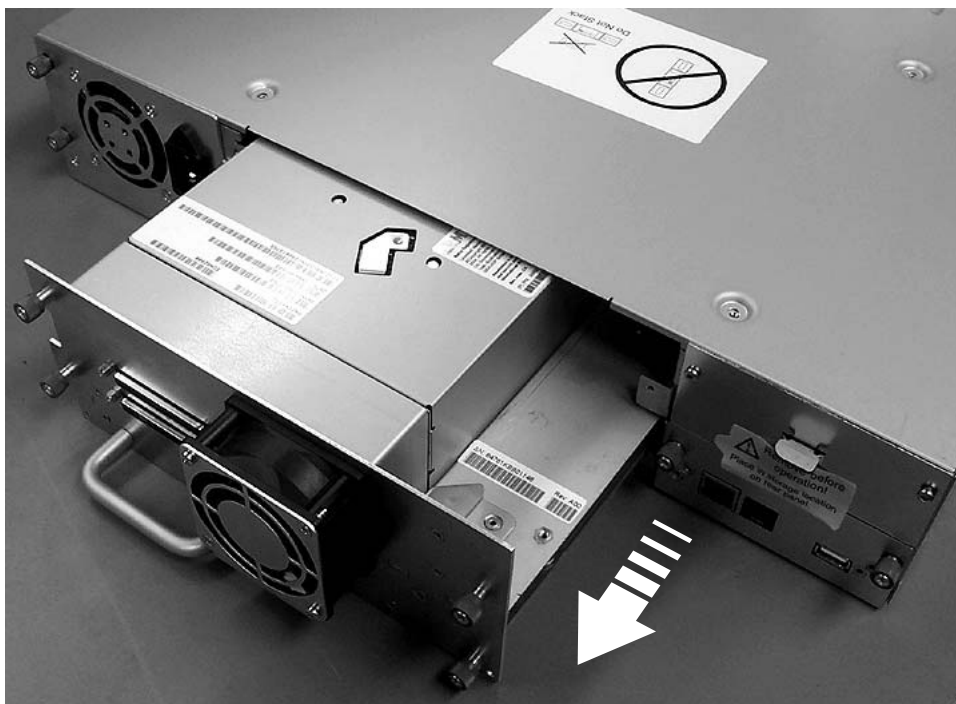

Figure 10-7. Pulling the drive sled out of the library (drive sled without ESD springs shown)
7. Pull straight back on the drive sled handle (**10**) to remove it from the library (see Figure 10-7 on page 10-6).